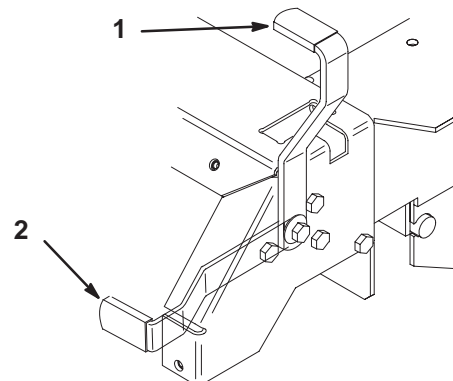

Figure 13
2. Pull back and up on the parking brake lever to set the parking brake (Fig. 13). The parking brake lever should stay firmly in the engaged position.
1. Push forward and down on the parking brake lever to release the parking brake (Fig. 13). The parking brake is disengaged and the lever rests against the brake stop.